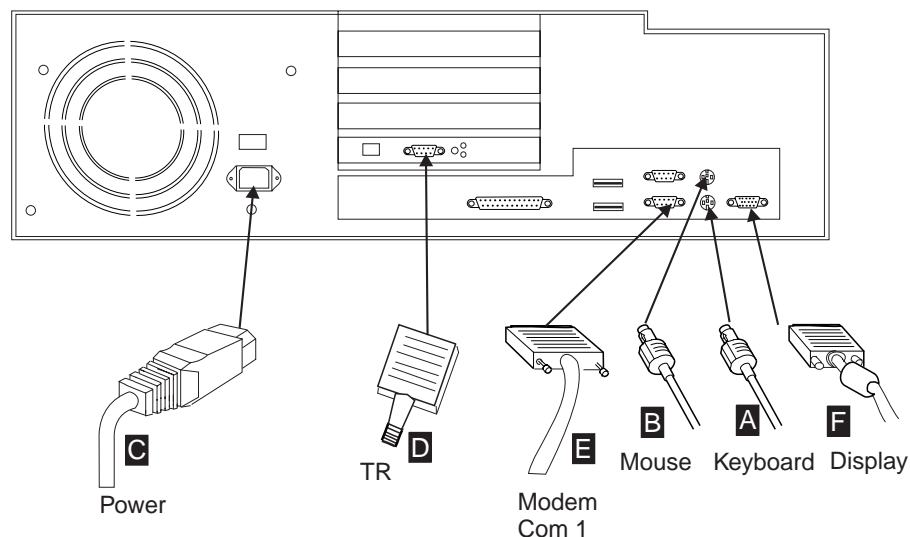

Figure 1-11. Cable Locations
15. ____ **Connect** the cables to the 6275 as follows (see Figure 1-11):